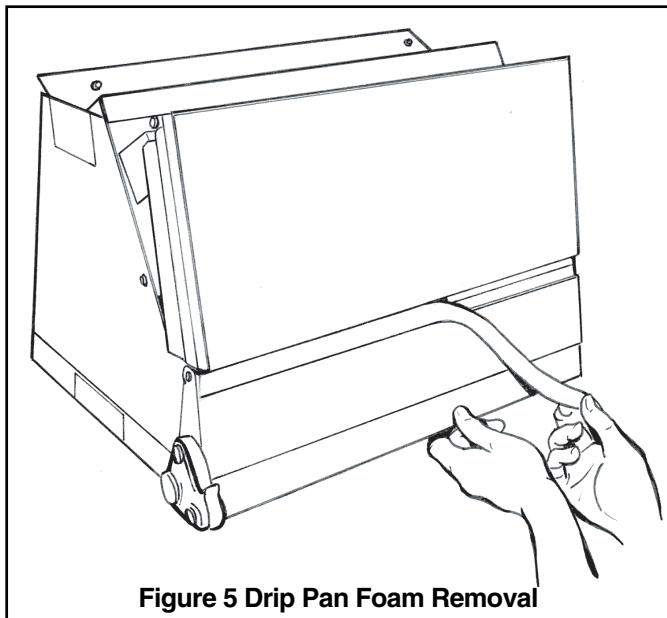

Figure 5 Drip Pan Foam Removal
- a. *For maximum efficiency*, the horizontal drip tray should be removed. See Figures 5, 6 and 7.